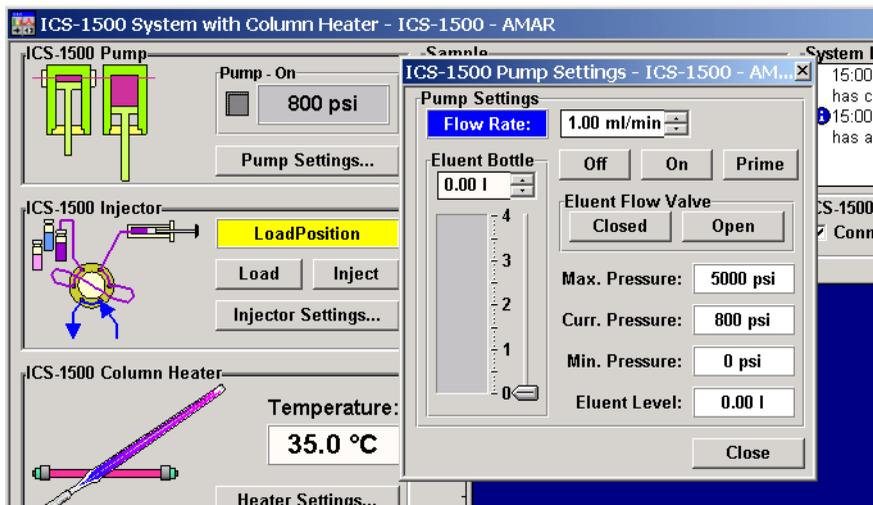

Figure 37. Chromeleon Control Panel: Pump Settings
4. On the Chromeleon Control Panel, click **Pump Settings** and then click **Eluent Flow Valve Open** (see Figure 37).
3. Click **Prime** on the Chromeleon Control Panel (see Figure 37). The pump will begin pumping at approximately 3.0 mL/min.